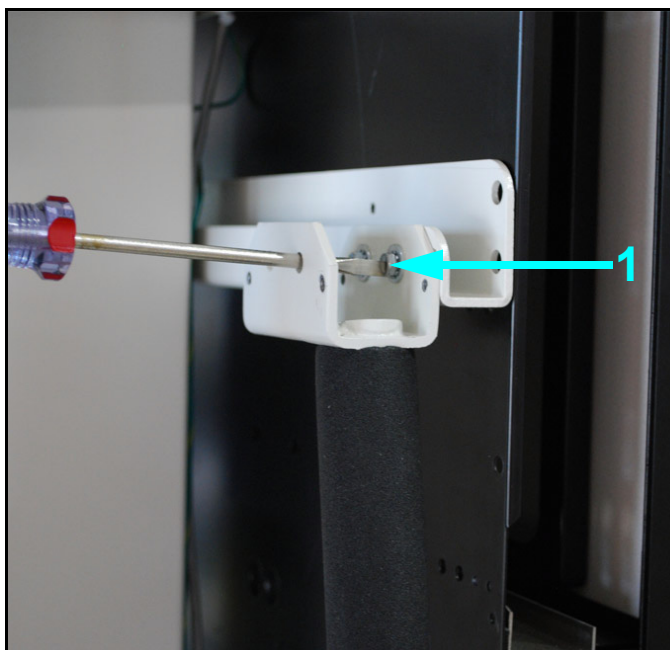

Figure 2-21. Brake Handle
- 20** To attach the brake handle (1 in Figure 2-21), screw in the handle to the back of the bottom bucky bar.